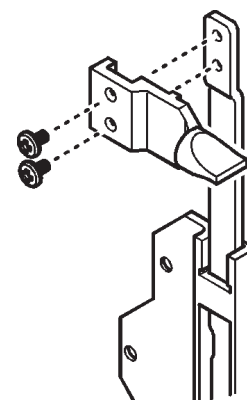

Figure 27. Slider control knob.
**1.** The (FS)slider control knob is supplied separately. Fit the slider control knob to the slider using two M4 x 7mm screws supplied (See figure 27).